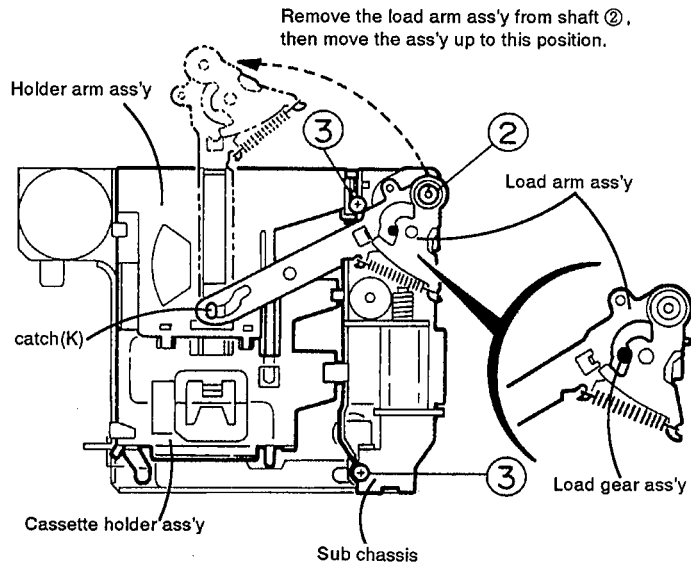

Fig. 4-7
■ Load arm ass'y (See Figs. 4-7~4-6)
- 1) Remove the C washer ② securing the load arm ass'y.
- 3) Turn the load arm ass'y in the rear direction, then disengage the load arm from the catch (K).
- 5) Remove two screws ③ securing the sub chassis.